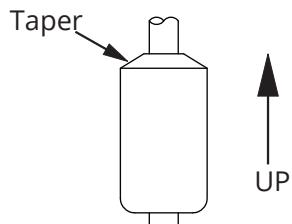

Figure 2.1
- The float(s) is/are oriented properly on the stem (See Figure 2.1). MPX-E floats will be installed by the factory. MPX-R floats are typically installed by customer.